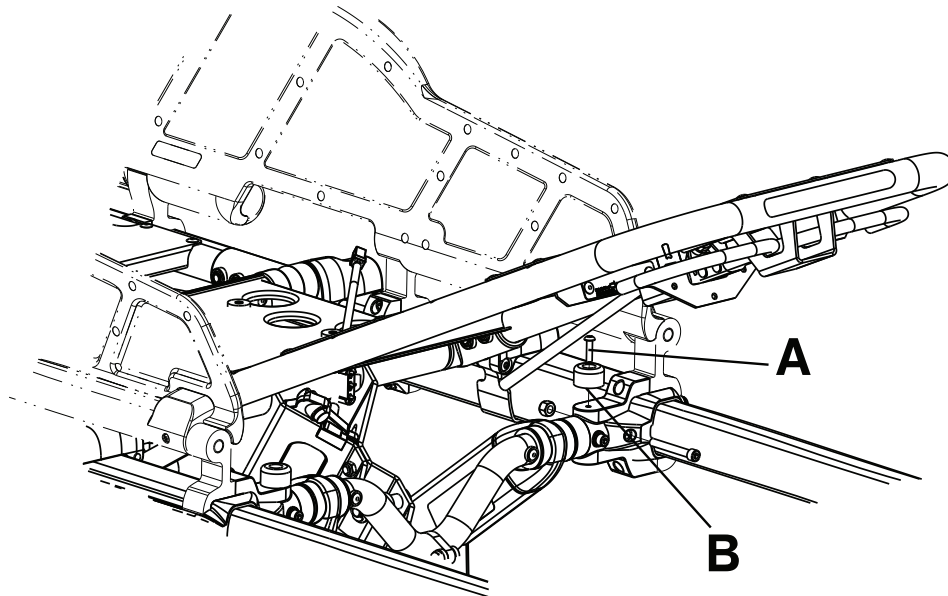

Figure 24: Siderail assembly replacement (XPS)
3. Using a T25 Torx driver, remove the button head cap screw (A) and black bumper (B) on the side where you are replacing the siderail (Figure 24 on page 57). Save the screw and bumper.